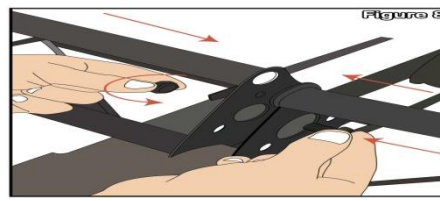
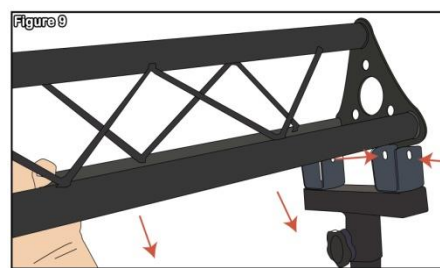

Figure 8
Figure 9
Step 5 – Take the trusses and connect each with the bolts provided as shown in **Figure 8**. Once the trusses are connected and securely fastened slide each end on the T-adapters of the stand (See **Figure 9**).